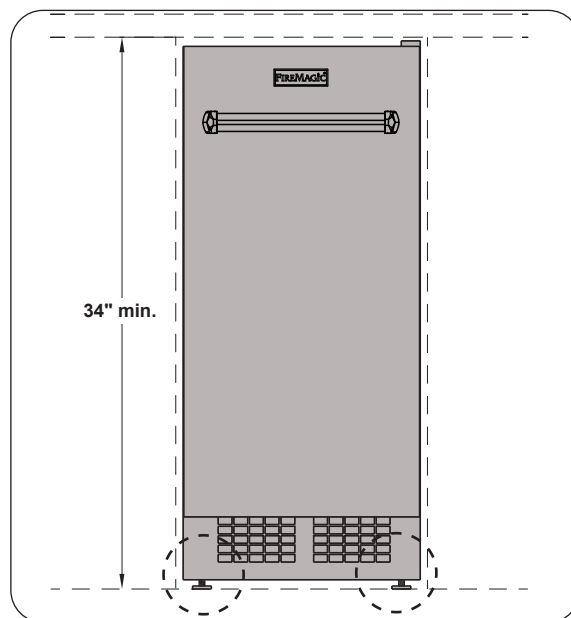

Fig. 9-2 Front view
9. Level the ice maker by adjusting the leveling legs: turn counterclockwise to raise the unit, or clockwise to lower it. See Fig. 9-2.